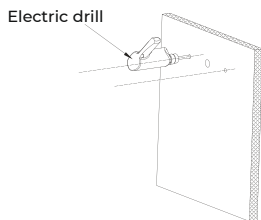

Fig. 39
3. Drill the wall with an electric drill with a diameter of 10mm and a hole spacing of 120-205mm, as shown in Fig. 39.